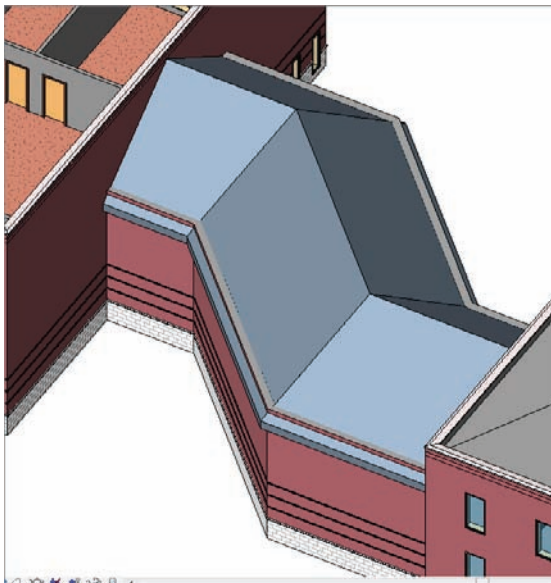

FIGURE 7.30 The corridor roof in 3D
12. Go to a 3D view. Does your roof look like Figure 7.30?